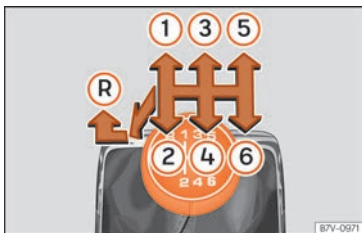

Fig. 50 Gear shift pattern of a 6-speed manual gearbox
The position of the gears is indicated on the gearbox lever »» **Fig. 50**.
»» **Fig. 50 (R)**.